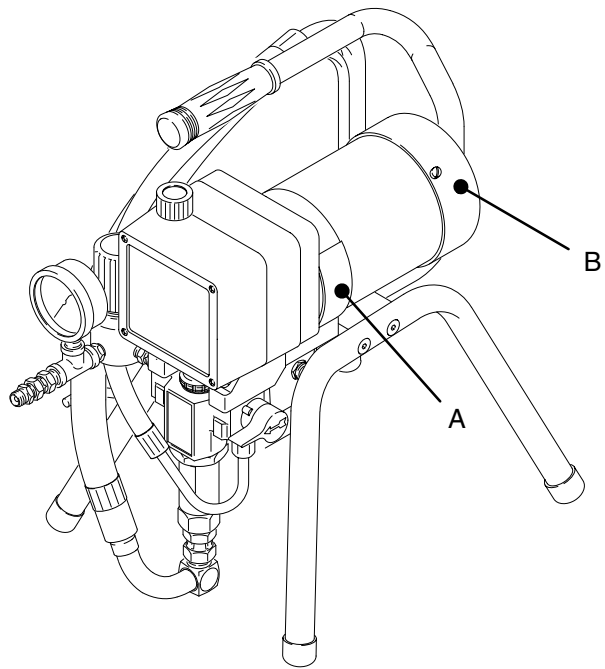

Fig. 13
Remove the motor brush inspection covers (A). See Fig. 13.
Remove the fan cover (B). See Fig. 13.